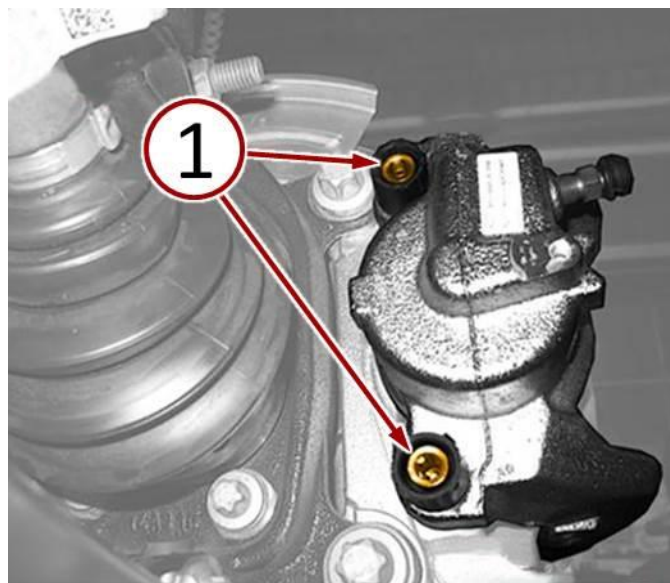

Fig. 9 Tighten Brake Caliper Guide Pin Bolts
19. Install the brake caliper mounting guide pin bolts (1) and tighten to ****27 N-m (20 Ft. Lbs.)**** (Fig. 9).